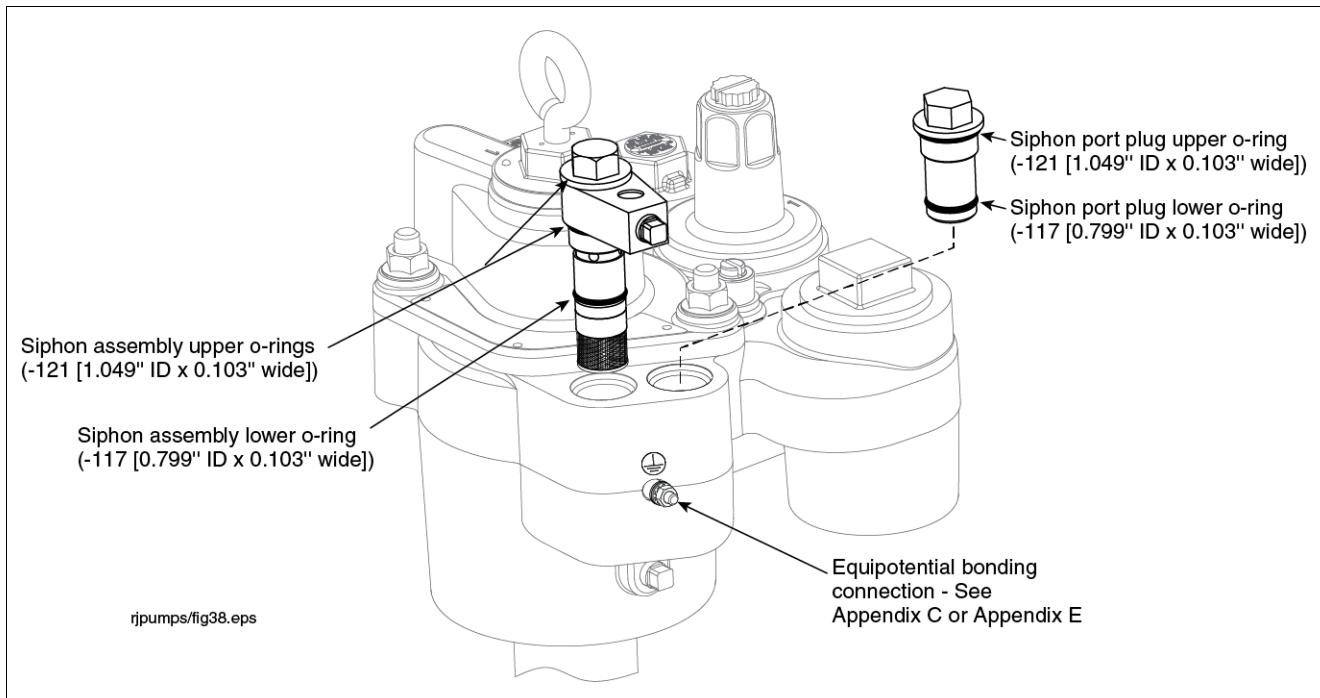

Figure 35. Inserting Siphon Assembly Into Manifold
5. Insert the siphon cartridge into the siphon port (see Figure 35). Swivel the outlet port of the siphon in the desired direction, and then hand tighten the siphon's retaining hex body. Torque the body to 25 - 30 ft-lbs (34 - 41 N•m).